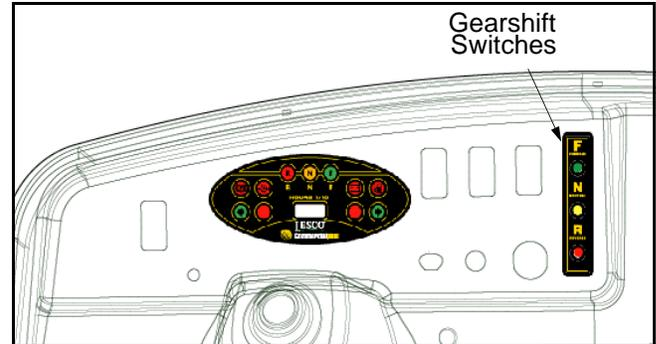

Figure 8
**NOTE:** The gearshift switches are located in the middle of the dash to the right of the steering column. When pushing the appropriate switch for forward, neutral, or reverse, the brake pedal must be depressed. See Figure 8.